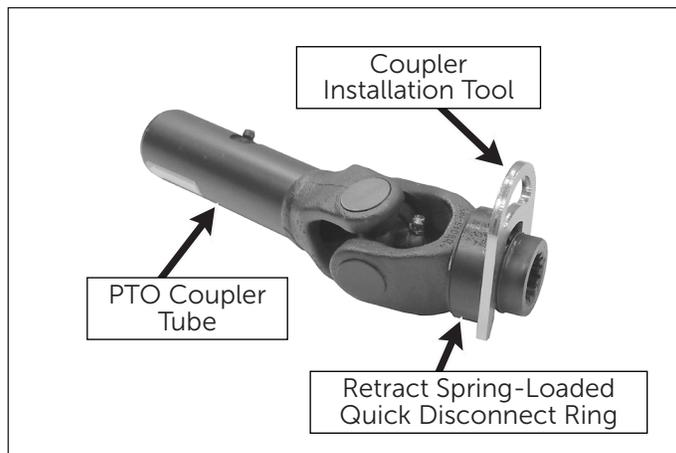

Figure 2.2: PTO Coupler Installation Tool
2. Retract the spring-loaded quick disconnect ring on the PTO Coupler and insert the Coupler Installation Tool (provided in Owner's Packet) as shown in the Figure 2.2.